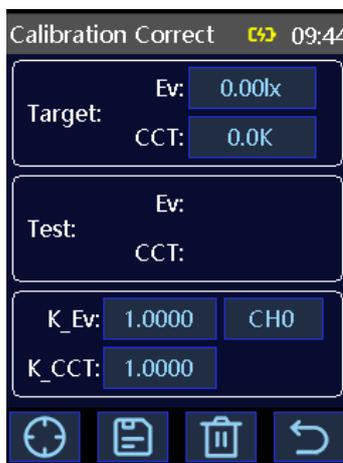

Figure 6
- ① The recommended practice is to perform a zero calibration before calibration correct.
- ② Refer to the calibration correct section of the manual and perform calibration correct on the colorimeter.
- ③ “Calibration ->Calibration correct” enters the calibration correct interface, as shown in Figure 6.
- ④ Select the calibration channel CHn, first input the parameters of the standard lamp (Target): Irradiance data  $E_v$  or Luminance data  $L_v$ , and then input the color temperature CCT of the standard lamp.
- ⑤ Turn on the standard light, preheat it, and make the standard light emit light steadily.
- ⑥ Finally, click the calibration button or MEAS button, and the colorimeter will start calibrate. The scale factor  $K$  will be automatically generated. Once the data is stable, click the save button to save the calibration correction.